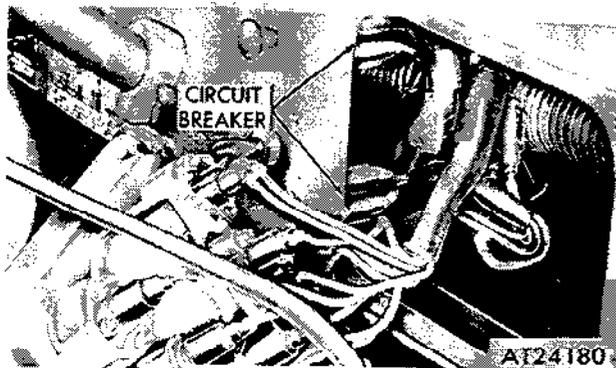

Figure 2-249. Disconnecting or connecting circuit breaker connectors on M151A2, M825, and V718A1 vehicles.
(21) Reach inside just to left of cluster opening and disconnect four connectors for the two circuit breakers (fig. 2-249).
g. Circuit Breakers on M151A2, M825, and M718A1 Vehicles. Two circuit breakers, both mounted inside the dash just left of instrument cluster (fig. 2-249), protect various electrical circuits. The top one protects the temperature indicator, fuel gage and oil pressure gage. The bottom one protects the horn circuit. A third breaker, integrated into the light switch assembly, protects the vehicle's lighting circuitry.